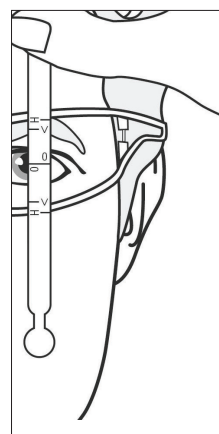

Figure 2: Vertical Coverage
- I. Select one of the Coverage and Gap Gauges and hold it vertically. Instruct the wearer to look straight ahead and keep their face relaxed (i.e. do not smile, frown, raise eyebrows, etc). Centre the "0" line approximately in the middle of the wearer's pupil. Using the ruler on the Coverage and Gap Gauge, evaluate the distance from the centre of the pupil to the upper and lower edge of the eyewear. This distance should meet or exceed the lines on the gauge marked with a "V" (Figure 2). Include the frame in the evaluation. Record the result on the Fit Evaluation Form under the "vertical measurement" column. Repeat with the other eye.